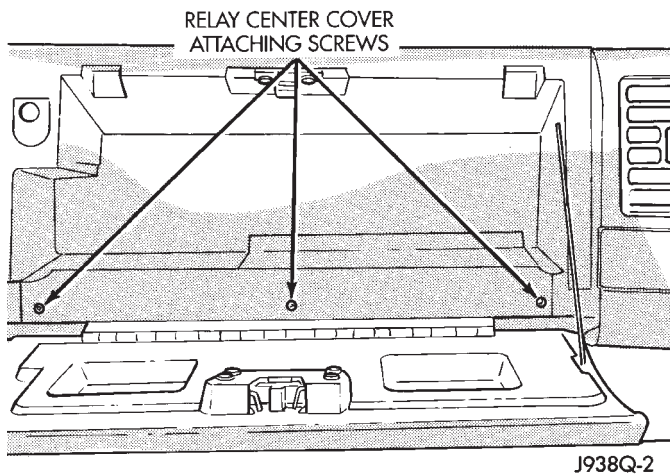

Fig. 12 Relay Center Cover
(1) Open glove box and remove 3 screws holding relay center cover (Fig. 12).